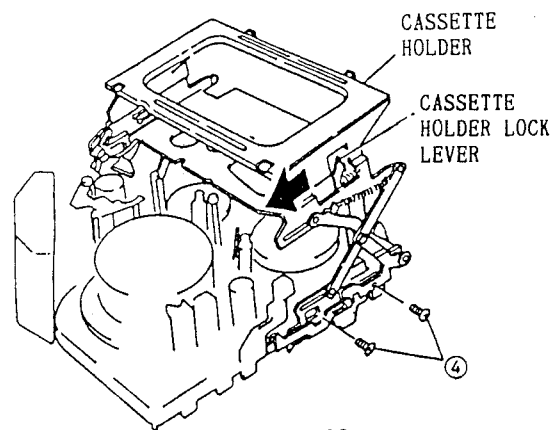

Fig. 2-52
3. Move the cassette holder lock lever in the direction of the arrow to lift up the cassette holder. (See Fig. 2-52)
4. Remove four (4) screws holding the cassette holder and remove the holder together with the holder switch from the chassis. (See Figs. 2-52, 2-53)